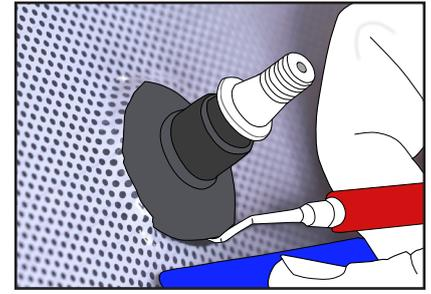

Figure 23
- › Lift the rubber with the HEXCROCH hook. (FIG. 23)